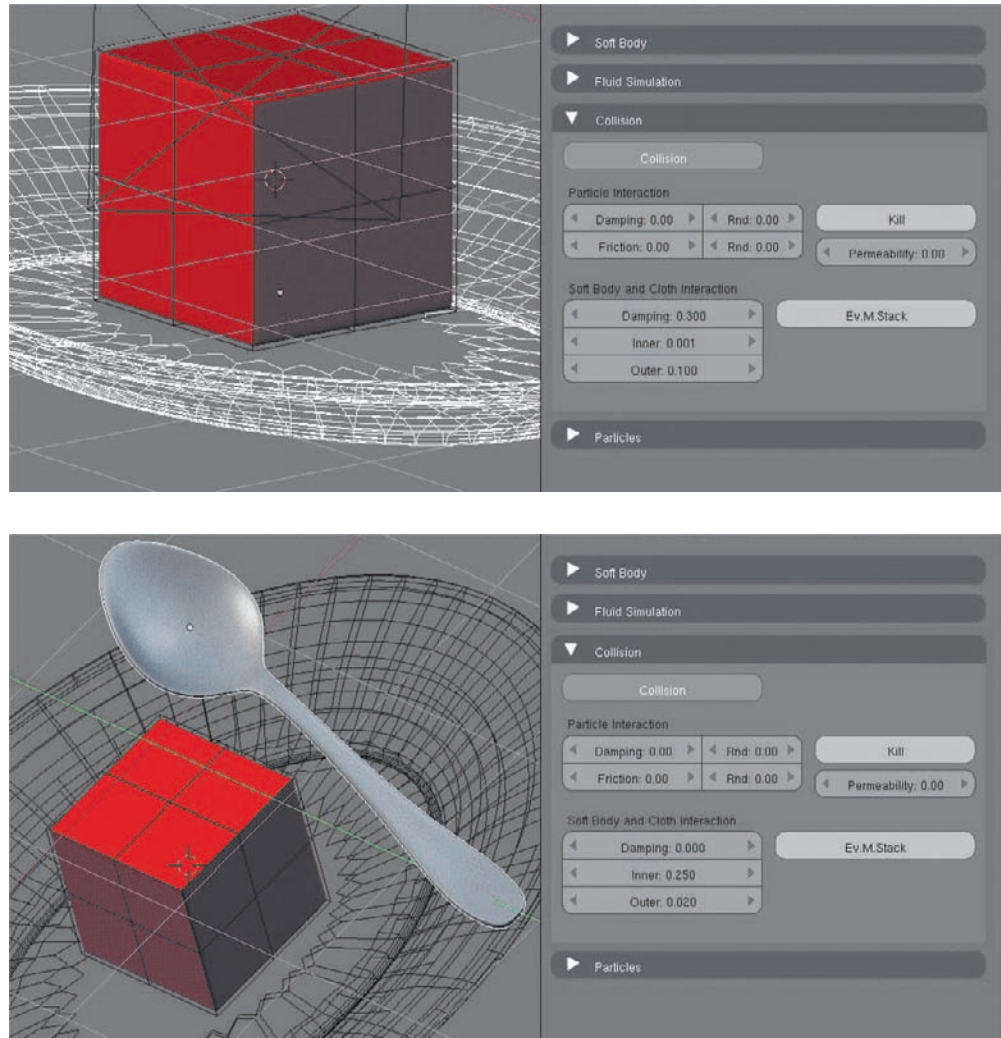

Figure 3.57 Collision values for the plate and spoon
5. In this example, there are two objects that interact with the gelatin. I downloaded the plate from the Kator Legaz model repository, where it and many other excellent models are freely available under the Creative Commons licenses. The spoon I modeled myself, but you can use any similar object to follow this tutorial. A simple cylinder would also do fine. In order for these objects to interact with the gelatin, it is necessary to set them as collision objects. The values I used in this example are shown in Figure 3.57.